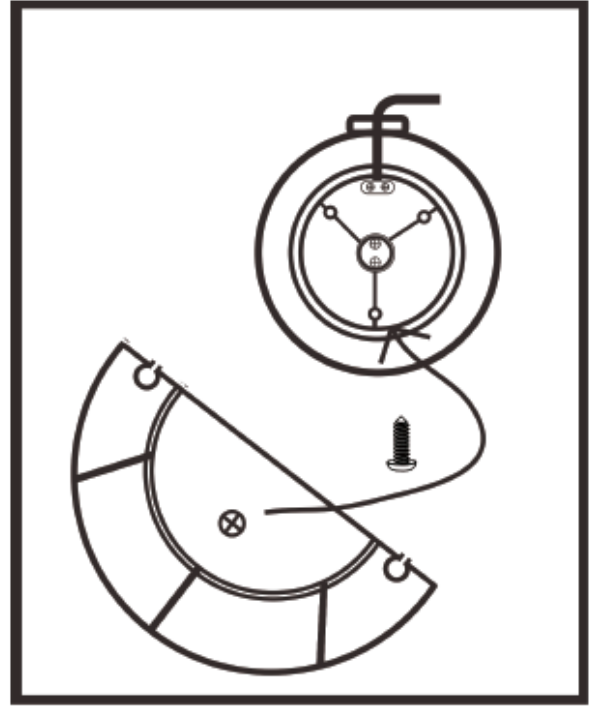

Abb. 4
- Secure the stand (9) with the screws (10). Please note that the screws are already placed in the bottom of the fan body. Unscrew the screws from the bottom of the fan, put down the foot and install the screws. Tighten the screws (10) with a suitable screwdriver (see Fig. 4).